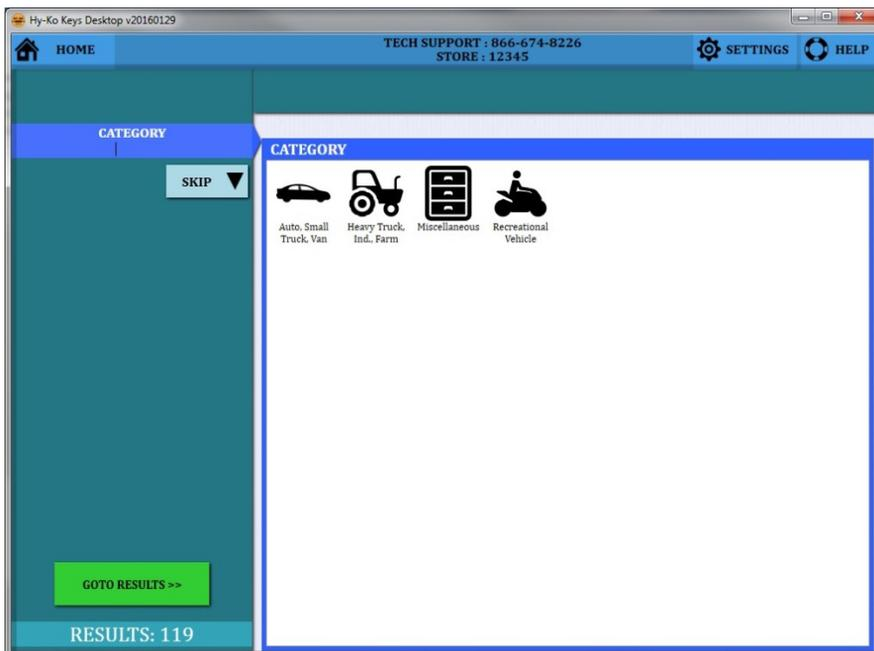

fig. 58
- Choose 'Auto, Small Truck, Van' for the category (see fig. 58).